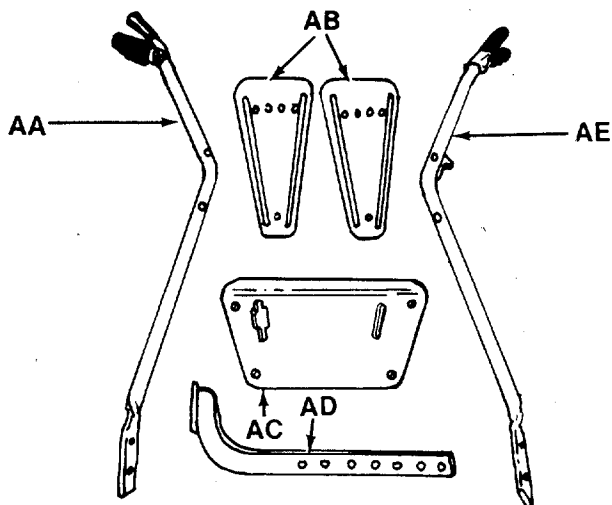

FIGURE 2.
- O (4) Hex Nuts 5/16-18 Thread
- P (4) Belleville Washers 5/16" I.D.
- Q (4) Hex Nuts 5/16-18 Thread
- R (1) Hex Bolt 1/4-28 x 1" Long
- S (1) Hex Lock Nut 1/4-28 Thread
- T (1) Rubber Washer
- U (1) Flat Washer 5/16" I.D. x 7/8" O.D.
- V (1) Hex Lock Nut 5/16-18 Thread
- W (1) Reverse Drive Clutch Lever (Not Shown)
- X (1) Self-Tapping Screw
**Loose Parts in Carton: (See figure 2)**
- AA (1) Handle—R.H.
- AB (2) Side Shields
- AC (1) Handle Panel
- AD (1) Depth Stake Assembly
- AE (1) Handle—L.H.